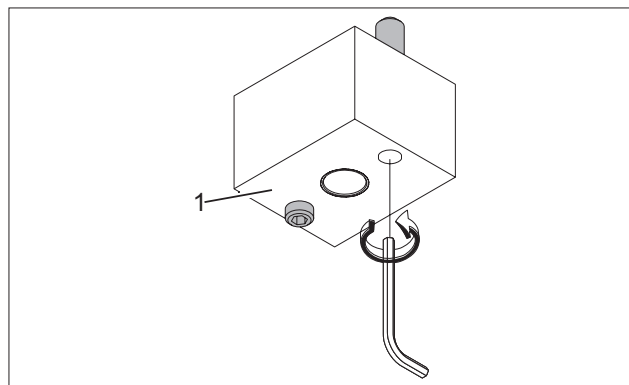

Fig. 16 Loosening the threaded pins
- Unscrew the set screws using the Allen wrench until the threaded pin and the end opposite of the support block head (Fig. 16/1) are flush.